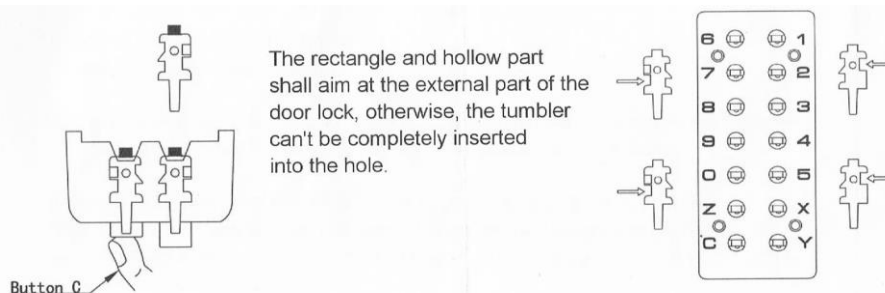

Figure 5
- **NOTE: The keyed and keyless tumblers vary in shape therefore it is essential that they are reinserted in the correct orientation as shown below in Figure 5.**